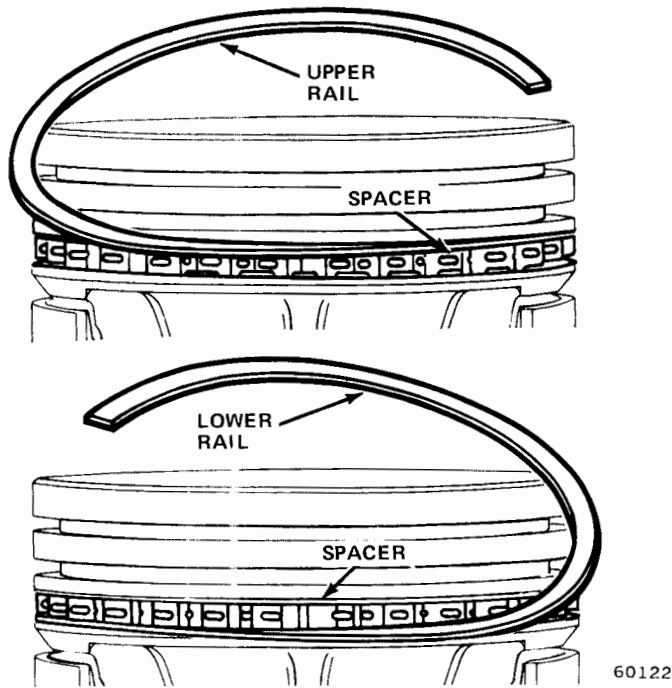

Fig. 1A-42 Oil Control Ring Rail Installation
(2) Install lower compression ring using ring installer to expand ring around piston (fig. 1A-43).